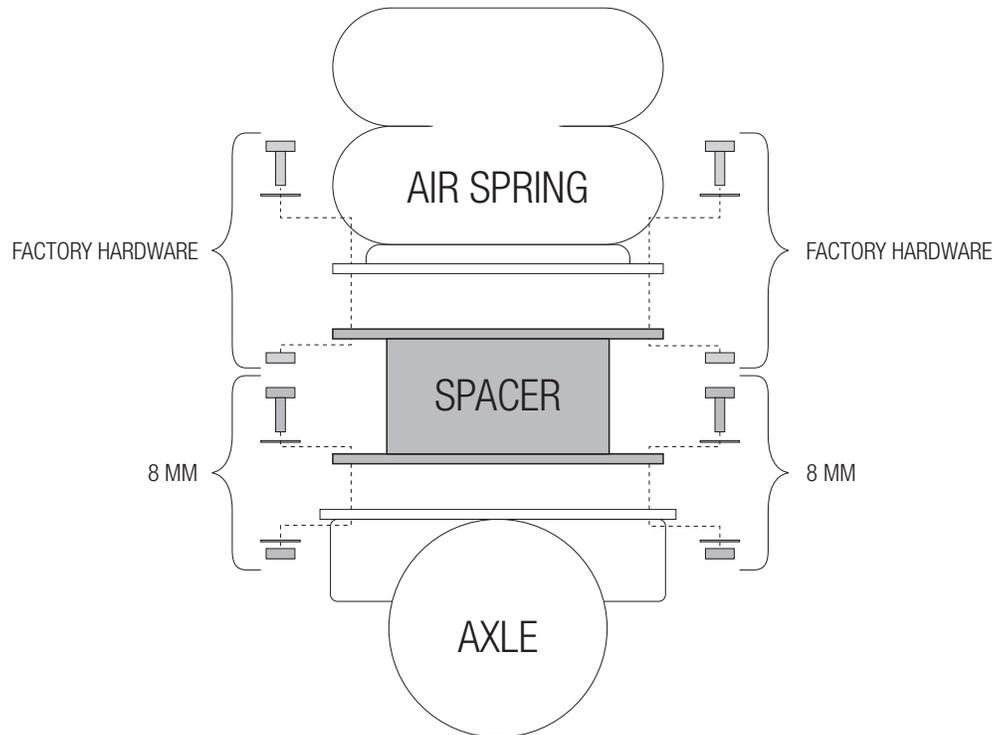

Figure 4
12. AIR SUSPENSION ONLY – Insert the rear air spring spacer. Secure at the bottom using the supplied 8mm bolts, nuts, and washers. Secure at the top re-using the factory hardware (fig. 4).